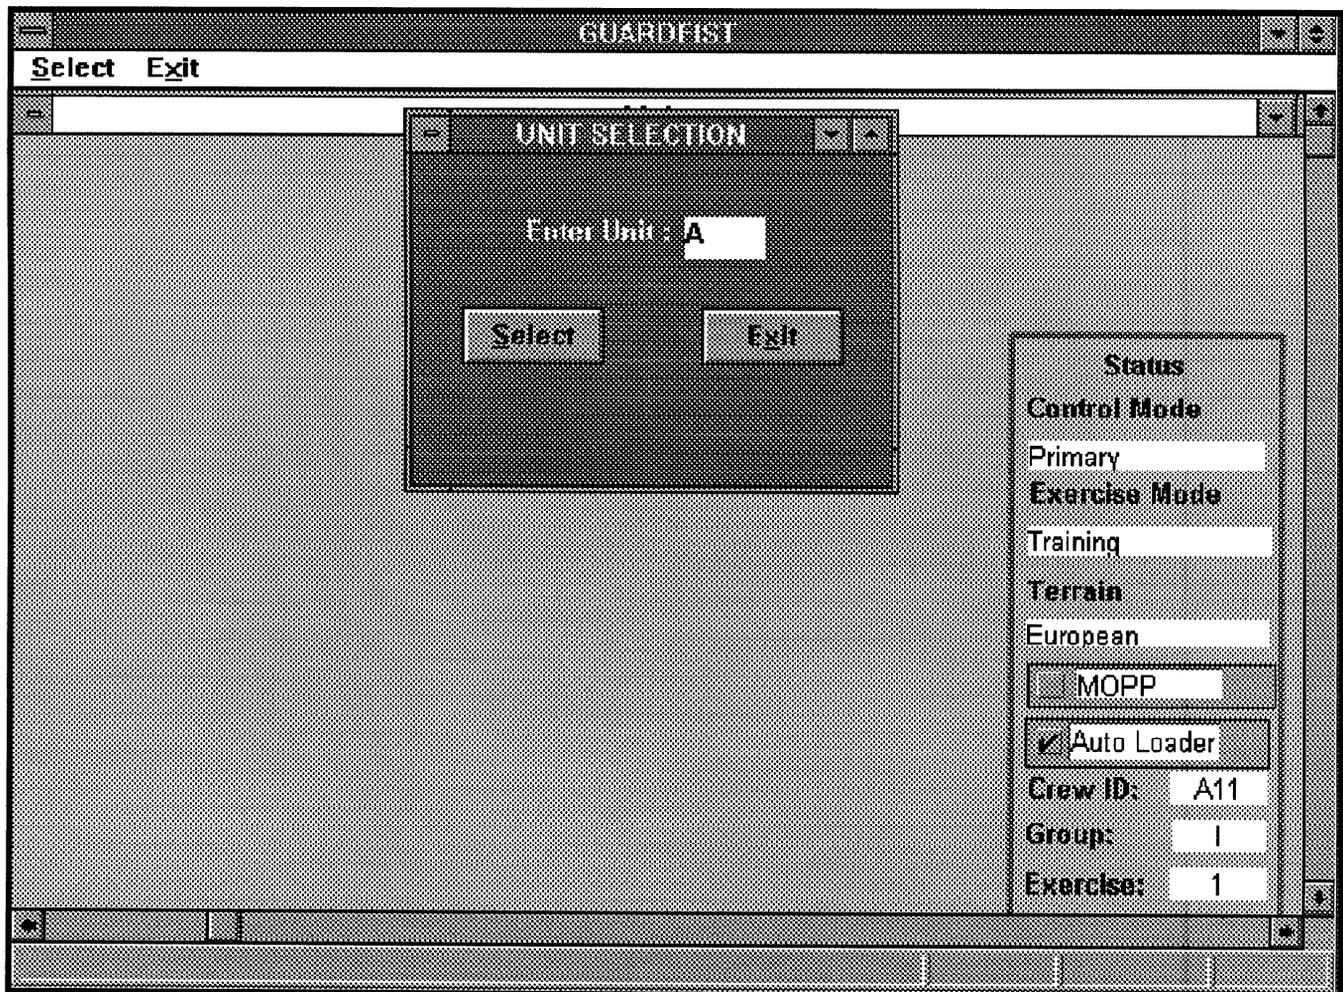

Figure 2-126. Unit Selection Screen
- a. At the Unit Performance menu, select Unit Performance Summary. The Unit Selection Screen, Figure 2-126, displays.